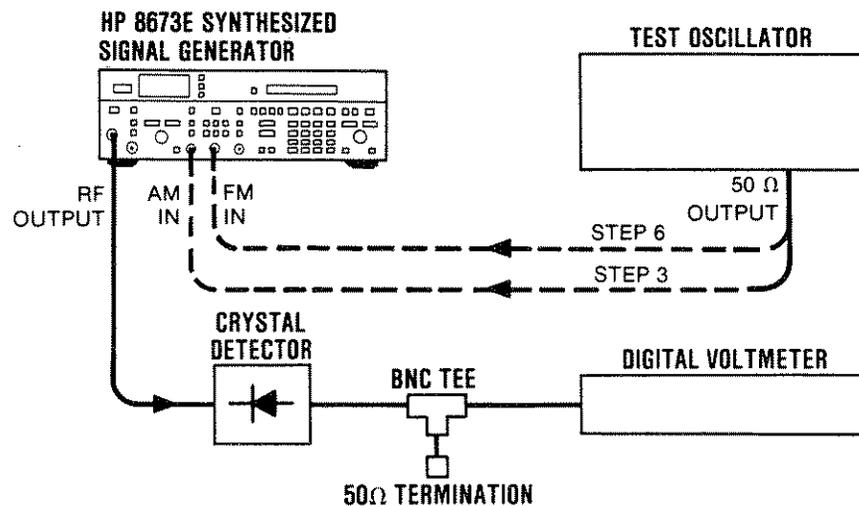

Figure 4-10. Incidental AM Test Setup
1. Connect the equipment as shown in Figure 4-10.